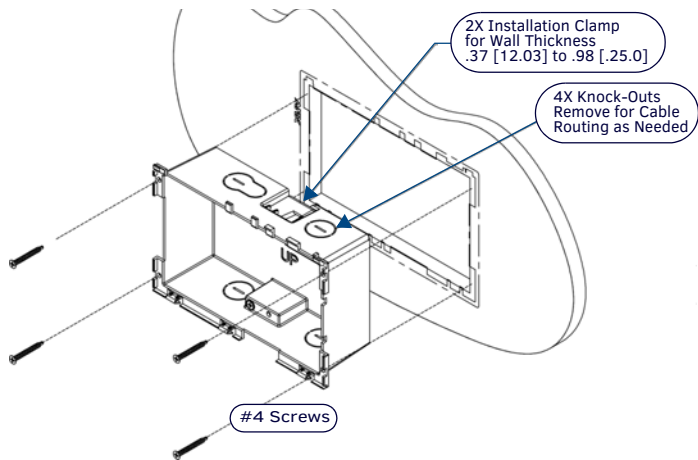

FIG. 4 MXD-701 BACKBOX INSTALLATION (LANDSCAPE)
- Thread the incoming Ethernet cable through the surface opening (FIG. 4). Leave enough slack in the wiring to accommodate any re-positioning of the panel.
- For additional strength, #4 mounting screws (not included) may be secured via mounting holes located at the left and right sides of the MXD-701 (FIG. 4). In order to prevent damage to the touch panel, make sure that these are flush with the Backbox.